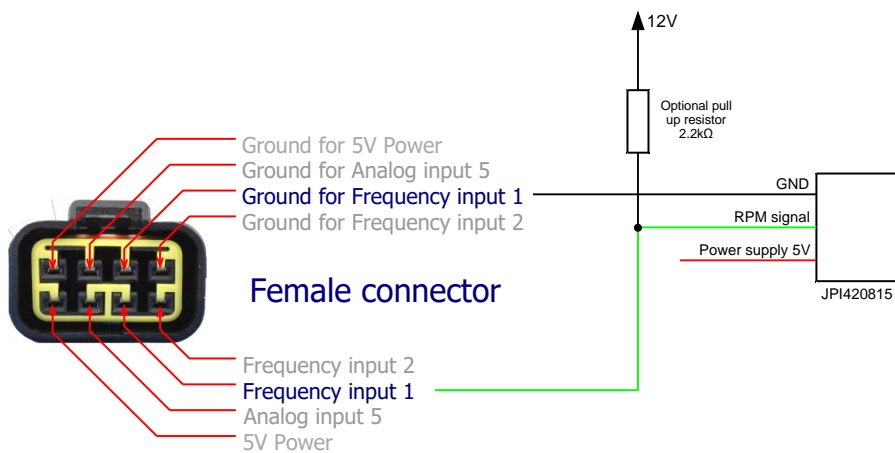

Figure 11: Active P-lead sensing from magnetos (view from unit side)
- Active P-lead sensing from magnetos (JPI 420815) - Figure 11: Active P-lead sensing from magnetos